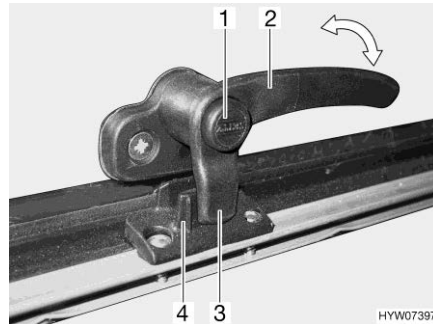
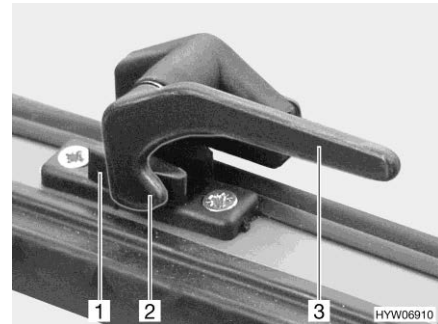

Fig. 94 Catch lever with safety knob in "closed" position
Fig. 95 Catch lever in "closed" position
- Press and hold the security button (Fig. 94,1), if present.
- Turn the catch lever (Fig. 94,2 or Fig. 95,3) a quarter turn towards the centre of the window.
- Turn the catch lever (Fig. 94,2 or Fig. 95,3) a quarter turn towards the window frame.
The locking catch (Fig. 94,3 or Fig. 95,2) on the catch lever is entirely on the inner side of the window catch (Fig. 94,4 or Fig. 95,1).
- "Firmly closed" (Fig. 94 and Fig. 95)